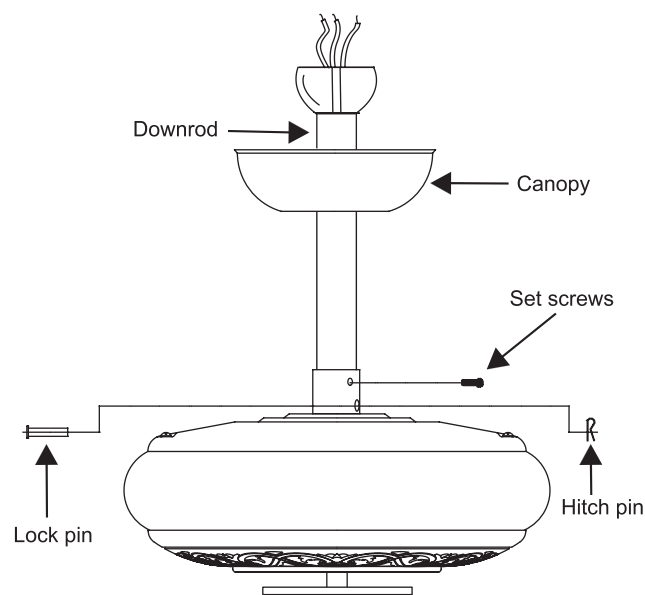
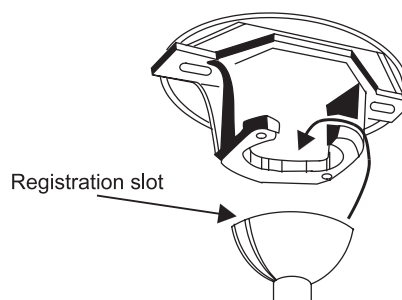

Figure 6
Figure 7
6. Fixez la chaîne-tirette. (voir figure 6).
Step 4. Route wires exiting from the top of the fan motor through the canopy and then through the ball / downrod. (Fig. 6)
Step 5. Align the holes at the bottom of the downrod with the holes in the collar on top of the motor housing (Fig. 7). Carefully insert the hanger pin through the holes in the collar and downrod. Be careful not to jam the pin against the wiring inside the downrod. Insert the locking pin through the hole near the end of the hanger pin until it snaps into its locked position, as noted in the circle inset of Fig. 6.
Step 6. Tighten two set screws on top of the fan motor firmly. (Fig. 6)
Step 7. Place the downrod ball into the hanger bracket socket. (Fig. 7)